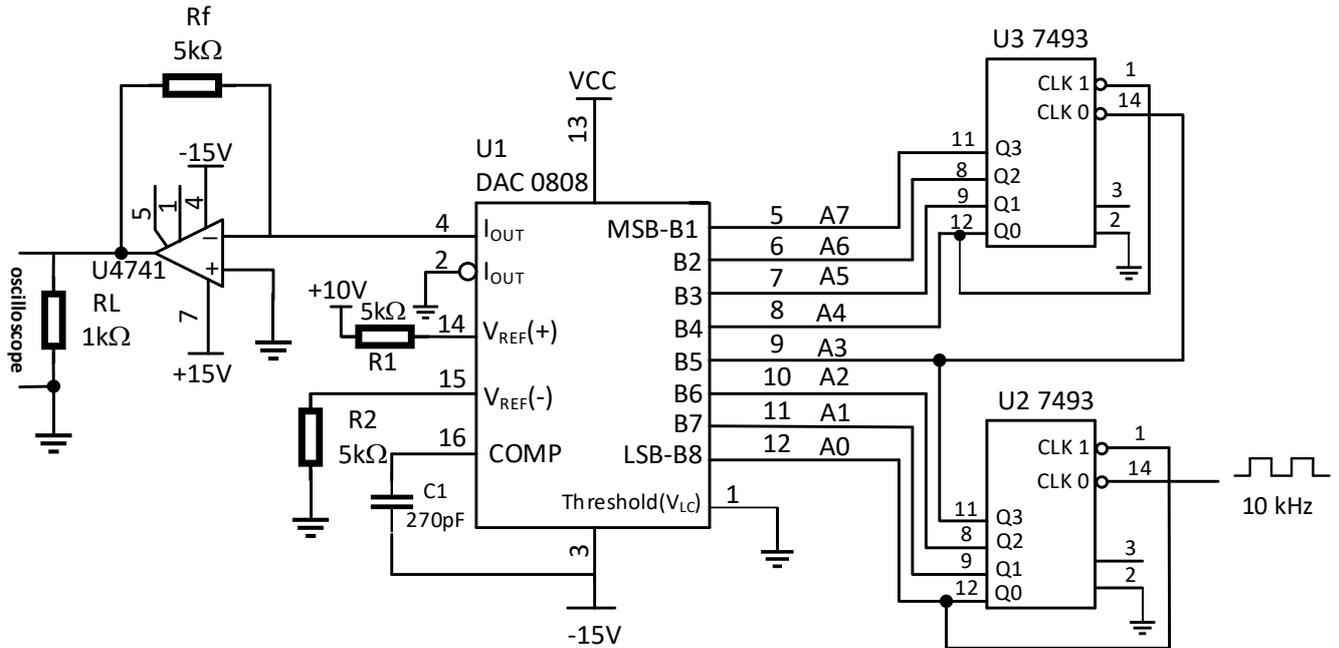

Figure 2
**Step 1.** Assemble the circuit shown in **Figure 2**